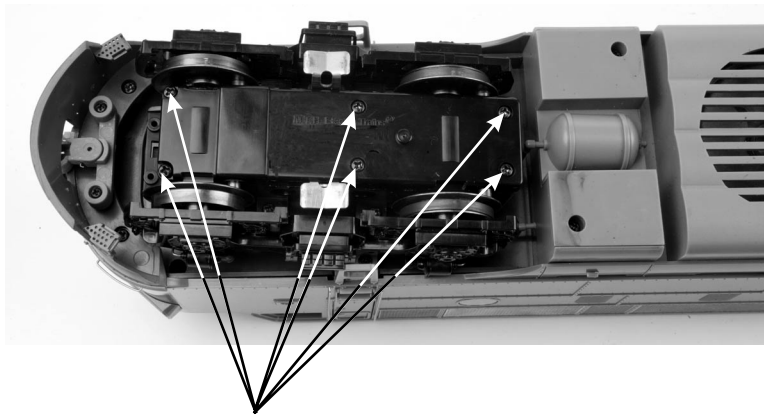

Figure 19 Truck Bottom Plate Mounting Screws
1. Turn the engine upside down and remove the truck bottom plate mounting screws as seen in Figure 19.